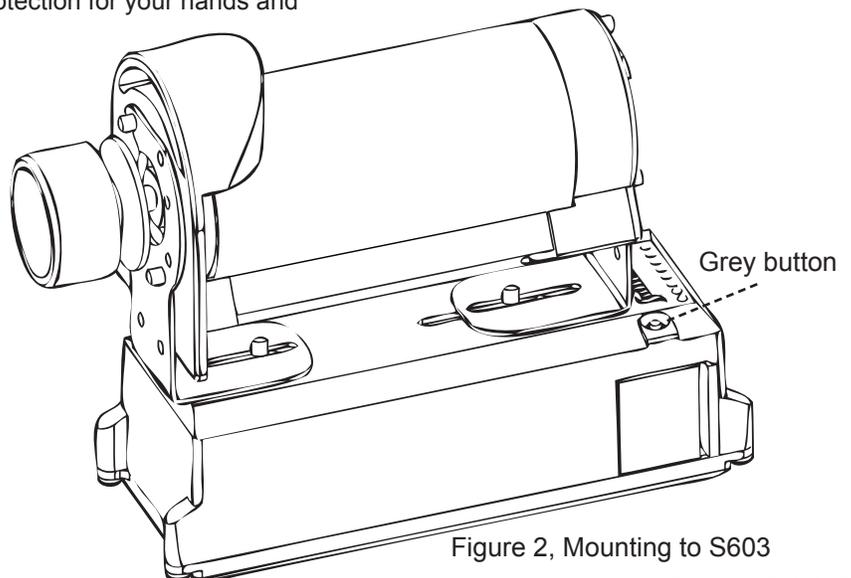

Figure 2, Mounting to S603
2. Connect the top of the Battery Box to the mounting brackets by removing the bottom cover and using the provided #8 x 3/8" screws and hex nuts, see Figure 2 below. The Sullivan Logo and charger door should be on the back end of the starter. Position the Battery Box as desired.